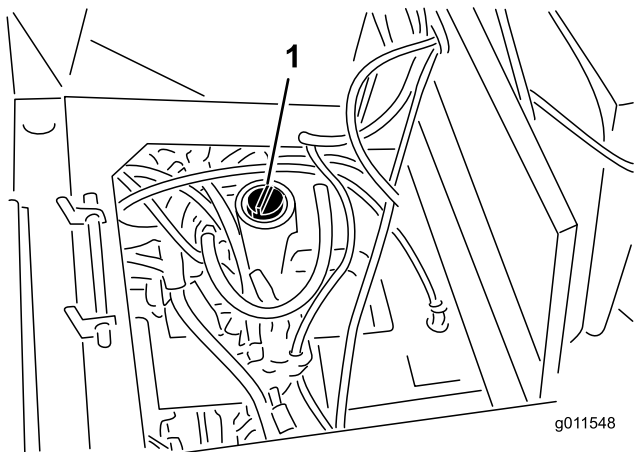

Figure 74
3. Fill the reservoir (Figure 74) with approximately 8 U.S. gallons (30 l) of hydraulic fluid; refer to Checking the Hydraulic Fluid.